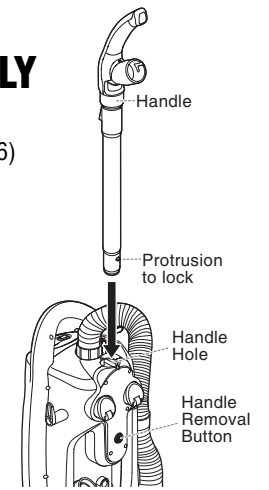

Fig. 6
- Insert handle in the handle hole on the top of the body. (Fig. 6)